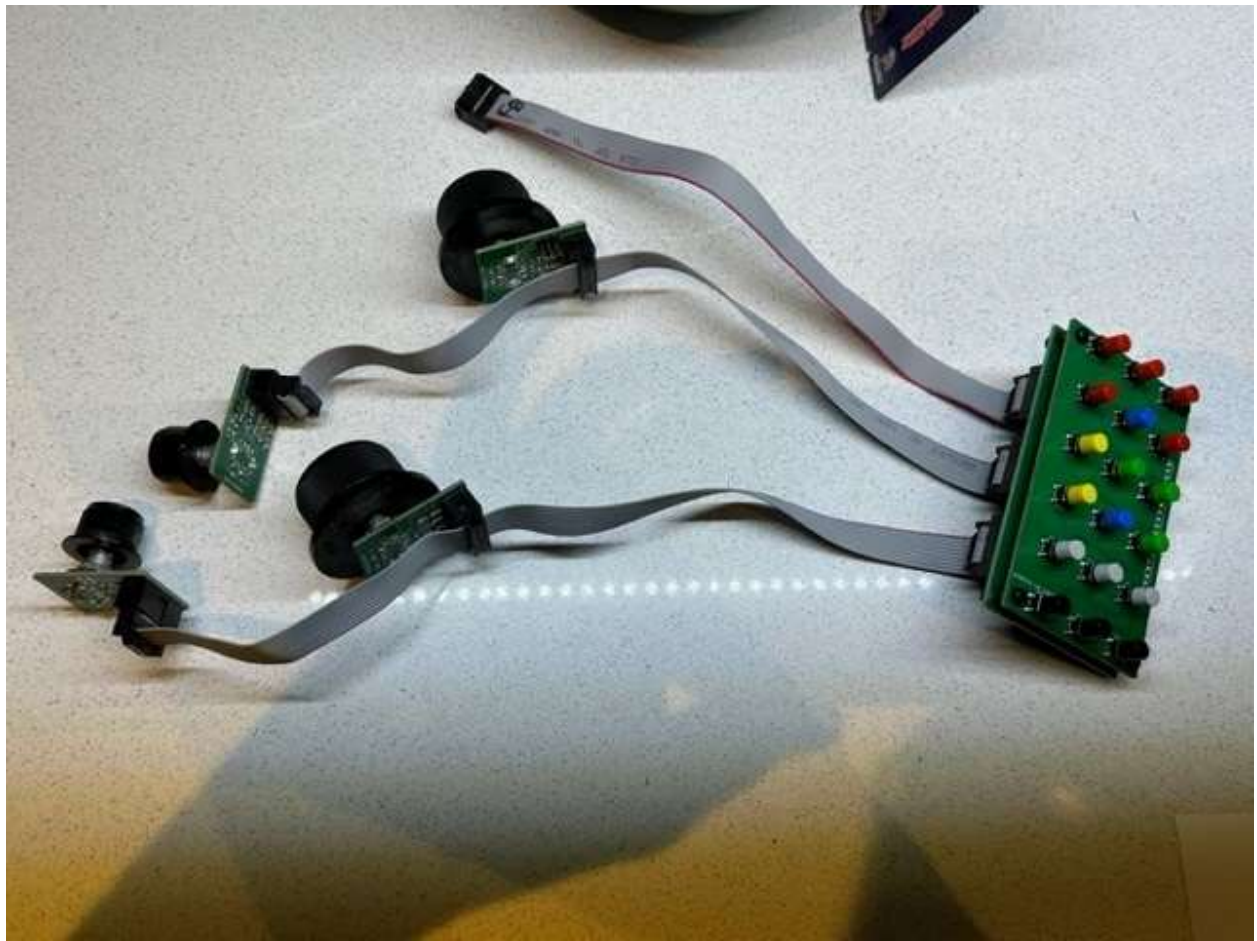

Figure 3. Completed Front Panel Board.
15. Make a cable to connect the Front Panel boards to the T41 Main Board Tune/Filter connector (Front Panel on the V012 Main Board). See Figure 3.